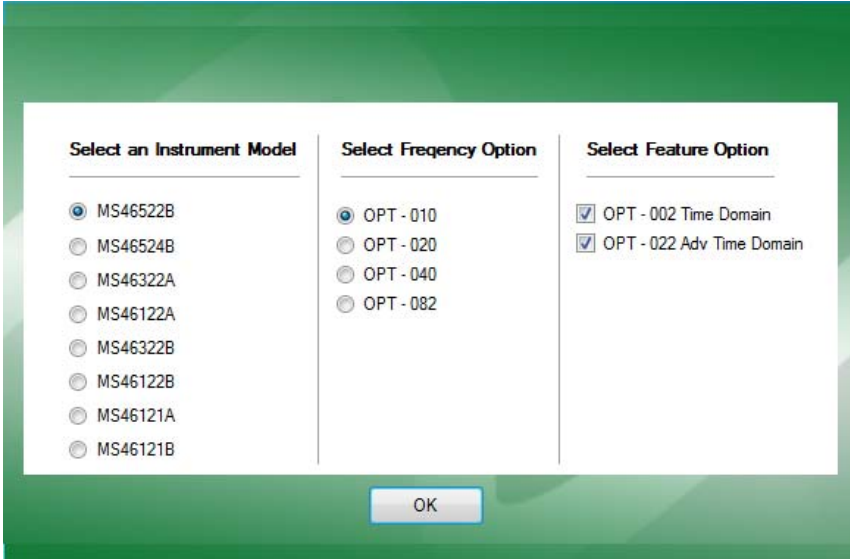

Figure 3-9. Simulator Select Instrument
3. Once Simulation Mode is selected, the default menu screen appears, see Figure 3-9.